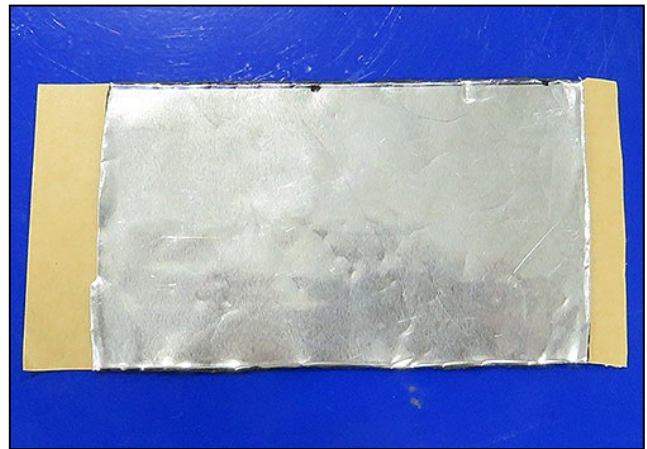

Figure 14
- Figure 14 shows one (1) of four (4) finished Butyl Patches.